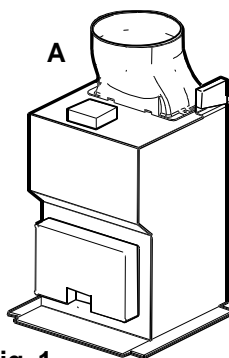

Fig. 1
- The air is discharged to the outside through a hose, which must be fitted to connection flange **A**. **Fig. 1**.